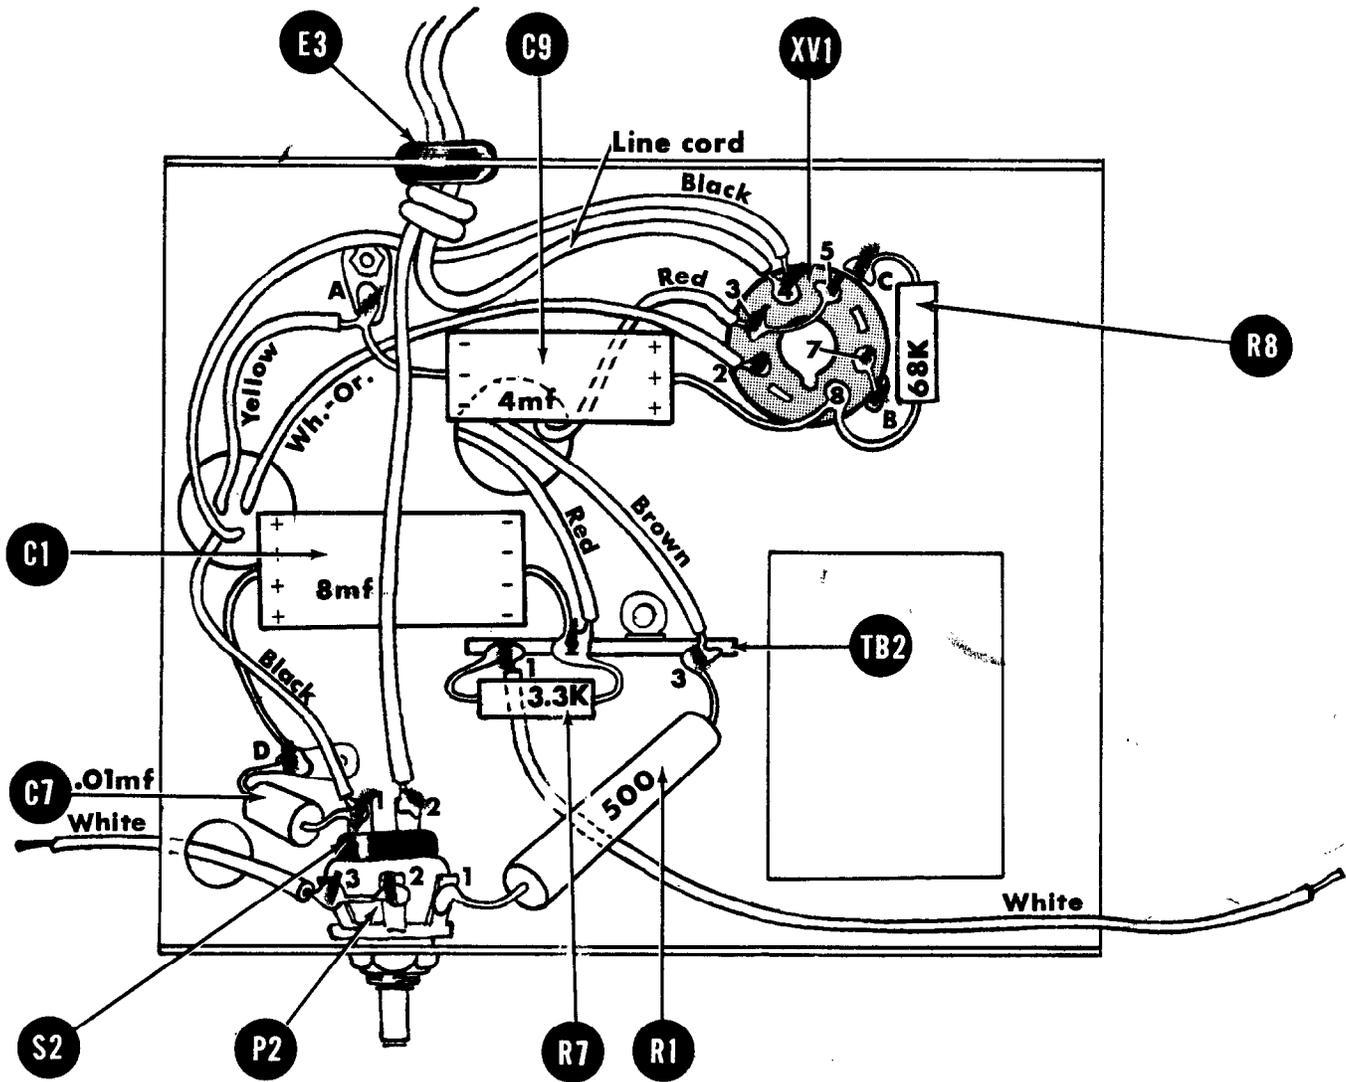

Fig.5
- (1) Fig. 5. Mount the 1 K Ω power factor potentiometer, P2, to chassis with one 3/8" hex nut, one 3/8" flat washer and one 3/8" lockwasher. This is a temporary mounting to facilitate the wiring.
- (2) Fig. 5. Connect black lead of power transformer PT1 to lug 1 of SPST switch S2 on potentiometer P2 (C).
- (3) Fig. 5. Connect the other black lead of power transformer PT1 to XV1-4 (C) (pin 4 of tube socket XV1).
- (4) Fig. 5. Connect yellow lead of power transformer PT1 to ground lug "A" (C).
- (5) Fig. 5. Connect orange-white lead of power transformer PT1 to XV1-2 (S).
- (6) Fig. 5. Connect brown lead of power transformer PT1 to TB2-3 (C).
- (7) Fig. 5. Connect red lead of power transformer PT1 to TB2-2 (C).
- (8) Fig. 5. Connect other red lead of power transformer PT1 through XV1-3 (S) to XV1-5 (S).
- (9) Fig. 5. Connect a short length of bare wire from XV1-7 (S) to ground lug "B" (S).
- (10) Fig. 5. Connect the 68 K Ω resistor, R8, from XV1-8 (C) to ground lug "C" (S).
- (11) Fig. 5. Connect the positive (+) lead of 4 mf capacitor C9 to XV1-8 (C) and the negative (-) lead to ground lug "A" (S).
- 1) Fig. 5. Connect the .01 mf capacitor, C7, from S2-1 (S) to ground lug "D" (C).
- 2) Fig. 5. Connect the 8 mf capacitor, C1, from TB2-2 (C) to ground lug "D" (S). (positive (+) lead to ground)
- 3) Fig. 5. Connect the 3.3K Ω resistor, R7, from TB2-2 (S) to TB2-1 (C).
- 4) Fig. 5. Connect a 8 1/2 in. length of white hook-up wire to TB2-1 (S).
- 5) Fig. 5. Connect the 500 Ω resistor, R1, from P2-1 (C) to TB2-3 (S).
- 6) Fig. 5. Connect an 3 in. piece of white hook-up wire through P2-3 (S) to P2-2 (S). Pass other end of lead through chassis hole.
- 7) Fig. 5. Insert line cord in grommet and knot 5" from stripped ends. Connect one lead to XV1-4 (S) and other lead to S2-2 (S).